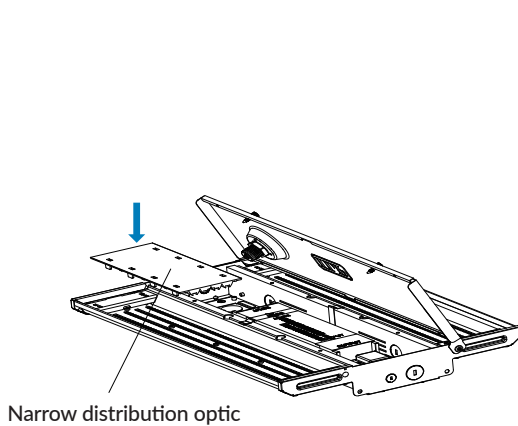

Figure 17
- Snap the narrow distribution optics to the LED boards on both sides based on the fixture size: 4 optics for a 1.4 ft fixture, 8 optics for a 2 ft fixture, 12 optics for a 3 ft fixture (Figure 17).